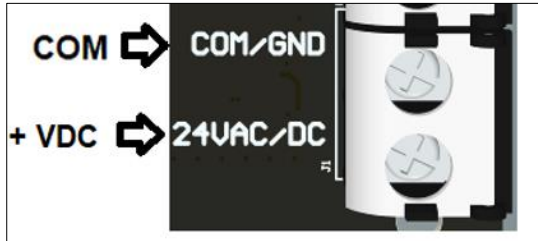

Figure 3. 24VDC connections
9. DC Powered: Connect the DC power supply wire (+) to 24VAC/VDC and (-) to COMMON. See Figure 3.